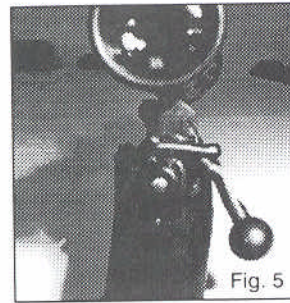

Fig. 5
- 6) Fig 5: Make sure the safety is engaged after completion of assembly. (See Safety Notes above)